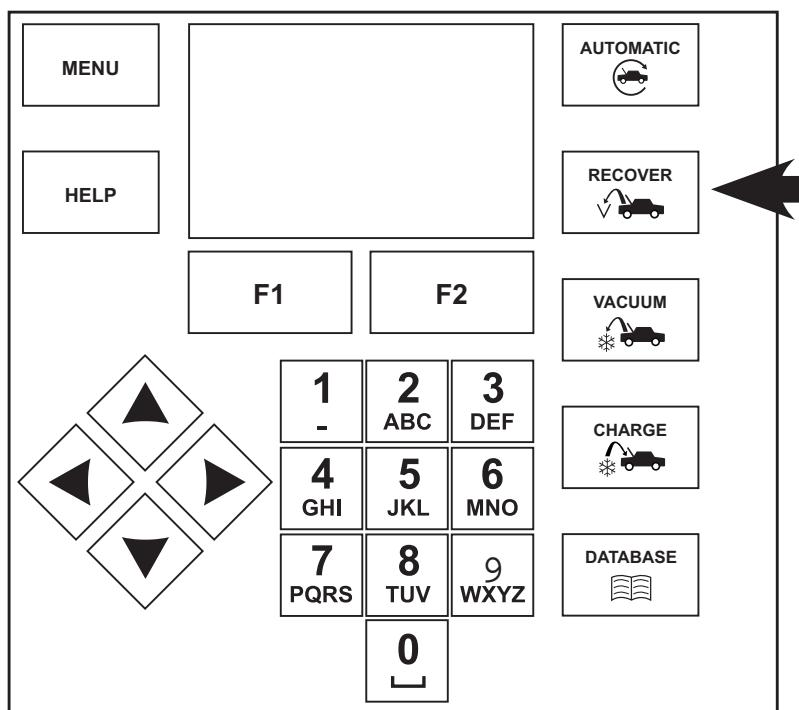

Figure 4
5. Press the RECOVER button on the control panel. See Figure 4.